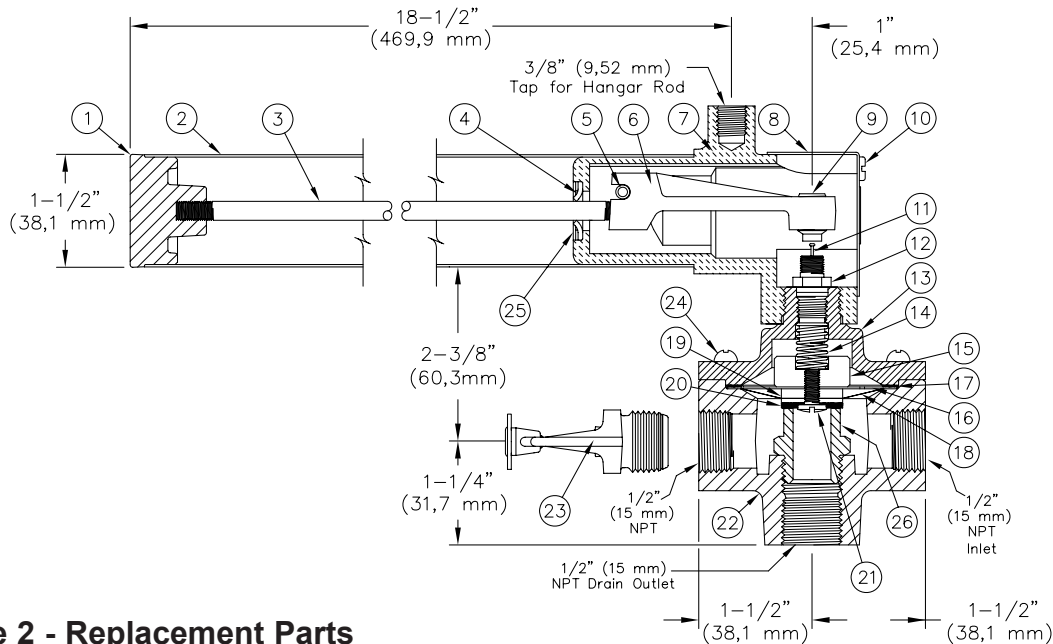

Figure 2 - Replacement Parts
5. OPERATION (Refer to Figure 2.)
C. Maintenance (Refer To Figure 2.)